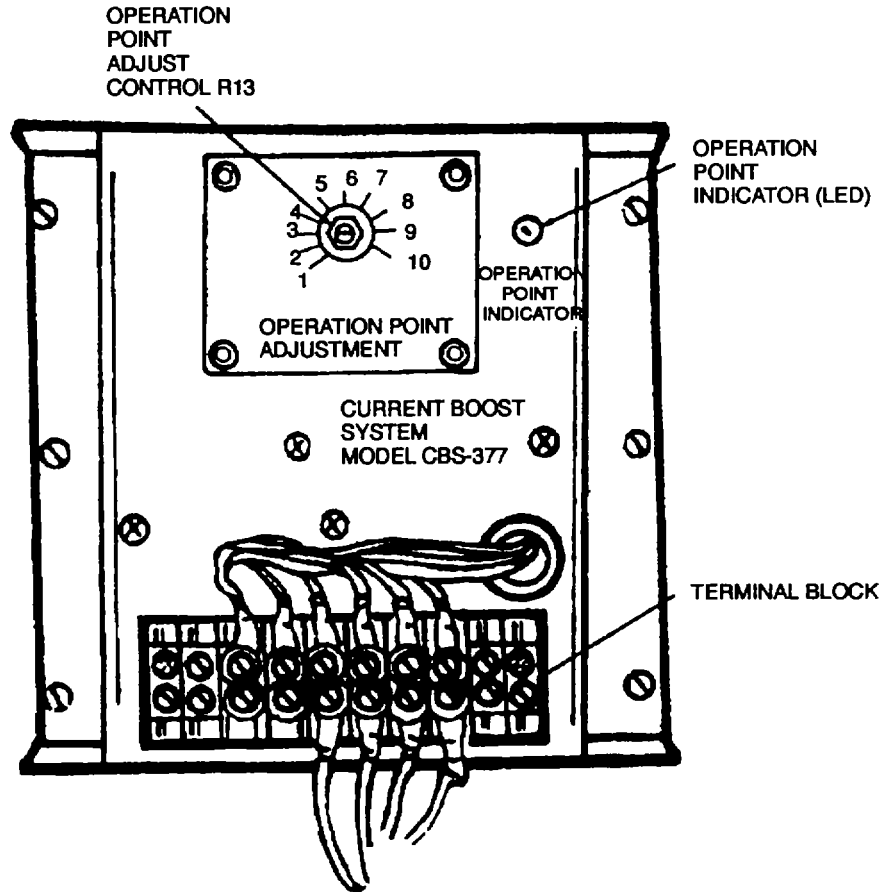
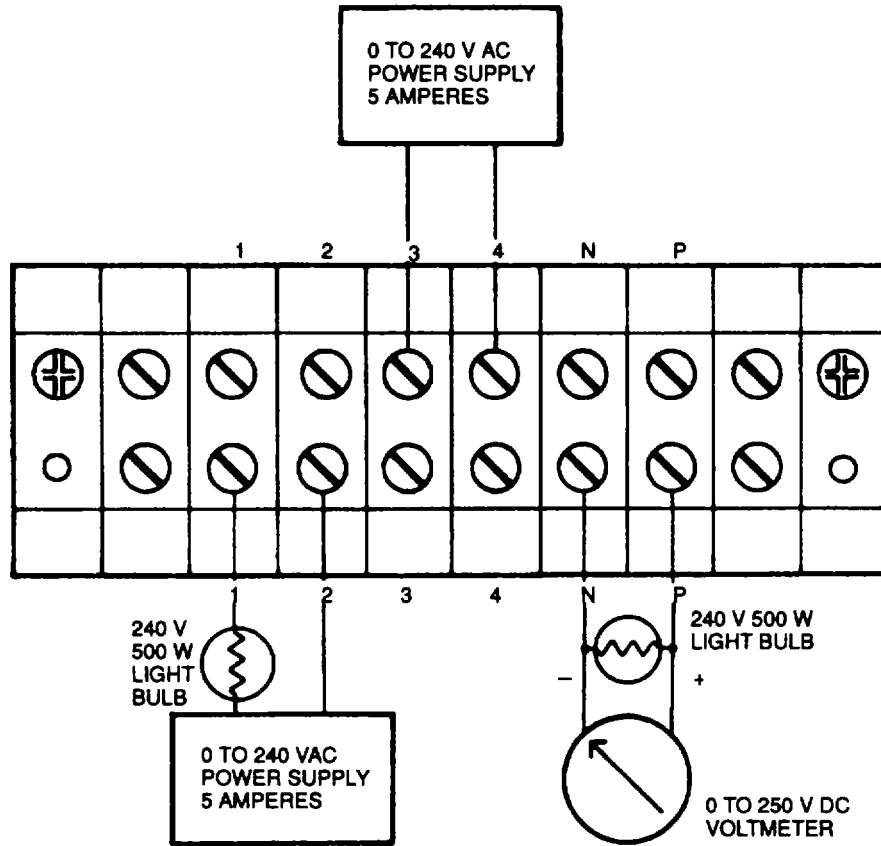

Figure 5-39. Current Boost Module A101, Adjusting
Figure 5-40. Test Setup, Current Boost Module A101
5-50. GENERAL. See Figure 5-38 and Figure 5-39. The purpose of the current boost module AI 01 (CBM) is to assist the voltage regulator VR1 01 during generator overload conditions such as engine starting, and to independently supply the generator exciter field current during generator short circuit faults. Operating power for the CBM is provided by two associated current transformers located in the conduit box assembly attached to the rear of the generator. The CBM consists of five functional circuits.
- c. Adjust. See Figure 5-39.
- (1) With the generator running at no-load, rotate the operation point adjustment control R13 fully counterclockwise.
- (2) Reduce generator voltage to 240 volts.
- (3) Rotate the operation point adjustment control clockwise until the operation indicator (LED) turns off.
- (4) Remove six screws and captive washer assemblies (34) and remove current boost module A101 (33).
- e. Test. See Figure 5-39 and Figure 5-40.